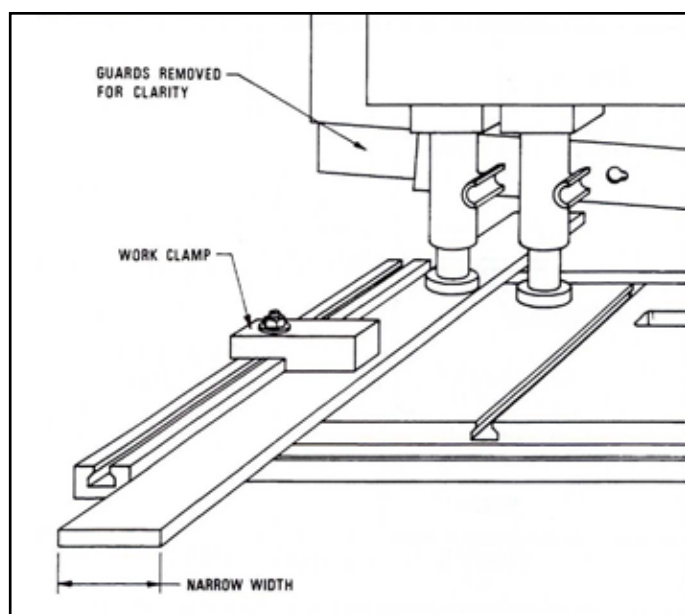

Figure 5-3 - Manual Clamping Device
4. If the material being sheared is not long enough to clamp with two holddowns, and is of maximum capacity for the shear, it may be necessary to provide a manual clamping device to prevent possible “tip-up”. See Figure 5-3 for a suggested type of clamp.
4. If material does raise, reposition along the table so at least two holddowns are clamping the material. Another method is to provide an external clamping mechanism. For example, a work clamp bolted to dovetail slot in the squaring arm or the table. See Figure 5-3.